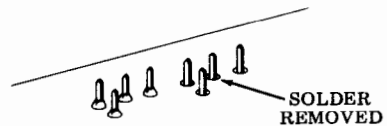

Fig. 10—Solder Removal
- (b) Remove solder from around terminal pins of keyswitch to be removed (Fig. 10).